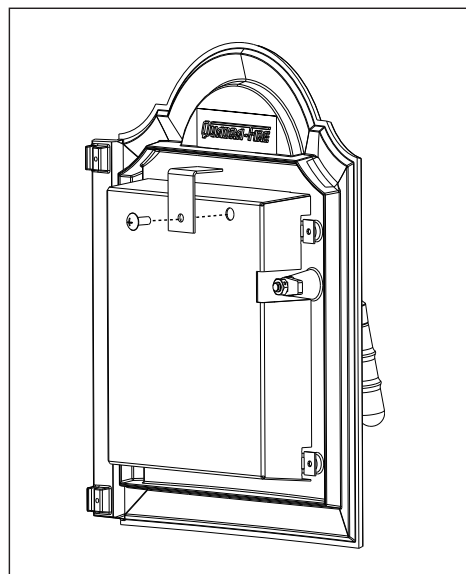

Figure 16.4
The side fuel loading door is shipped locked in place. **Figure 16.4**
2. Using a 5-32 Allen wrench, remove the bolt from the locking bracket. **Figure 16.4.**